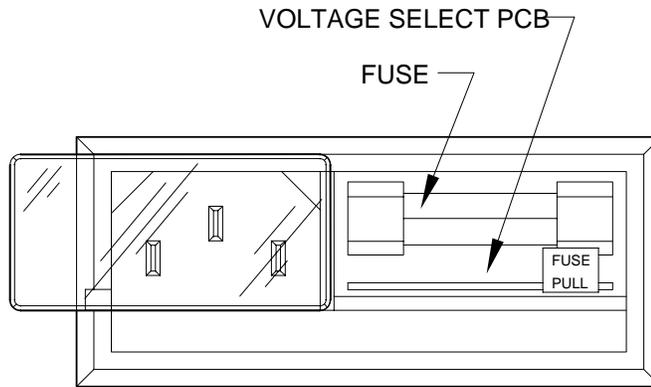

Figure 2-1. Power connector and voltage select.
The potentiostat can be powered by any of the following A.C. voltages: 100V, 120V, 220V, 240V. The A.C. frequency may be either 50 or 60 Hz. The main power source in the location must be the same as the voltage selected in the power cord connector on the rear panel of the potentiostat (Figure 2-1). For best results, an isolated power line is recommended.
- b. Slide the plastic window to the left to expose the voltage select printed circuit card (this card is shown in Figure 2-1). The orientation of this card in the connector determines the voltage option.